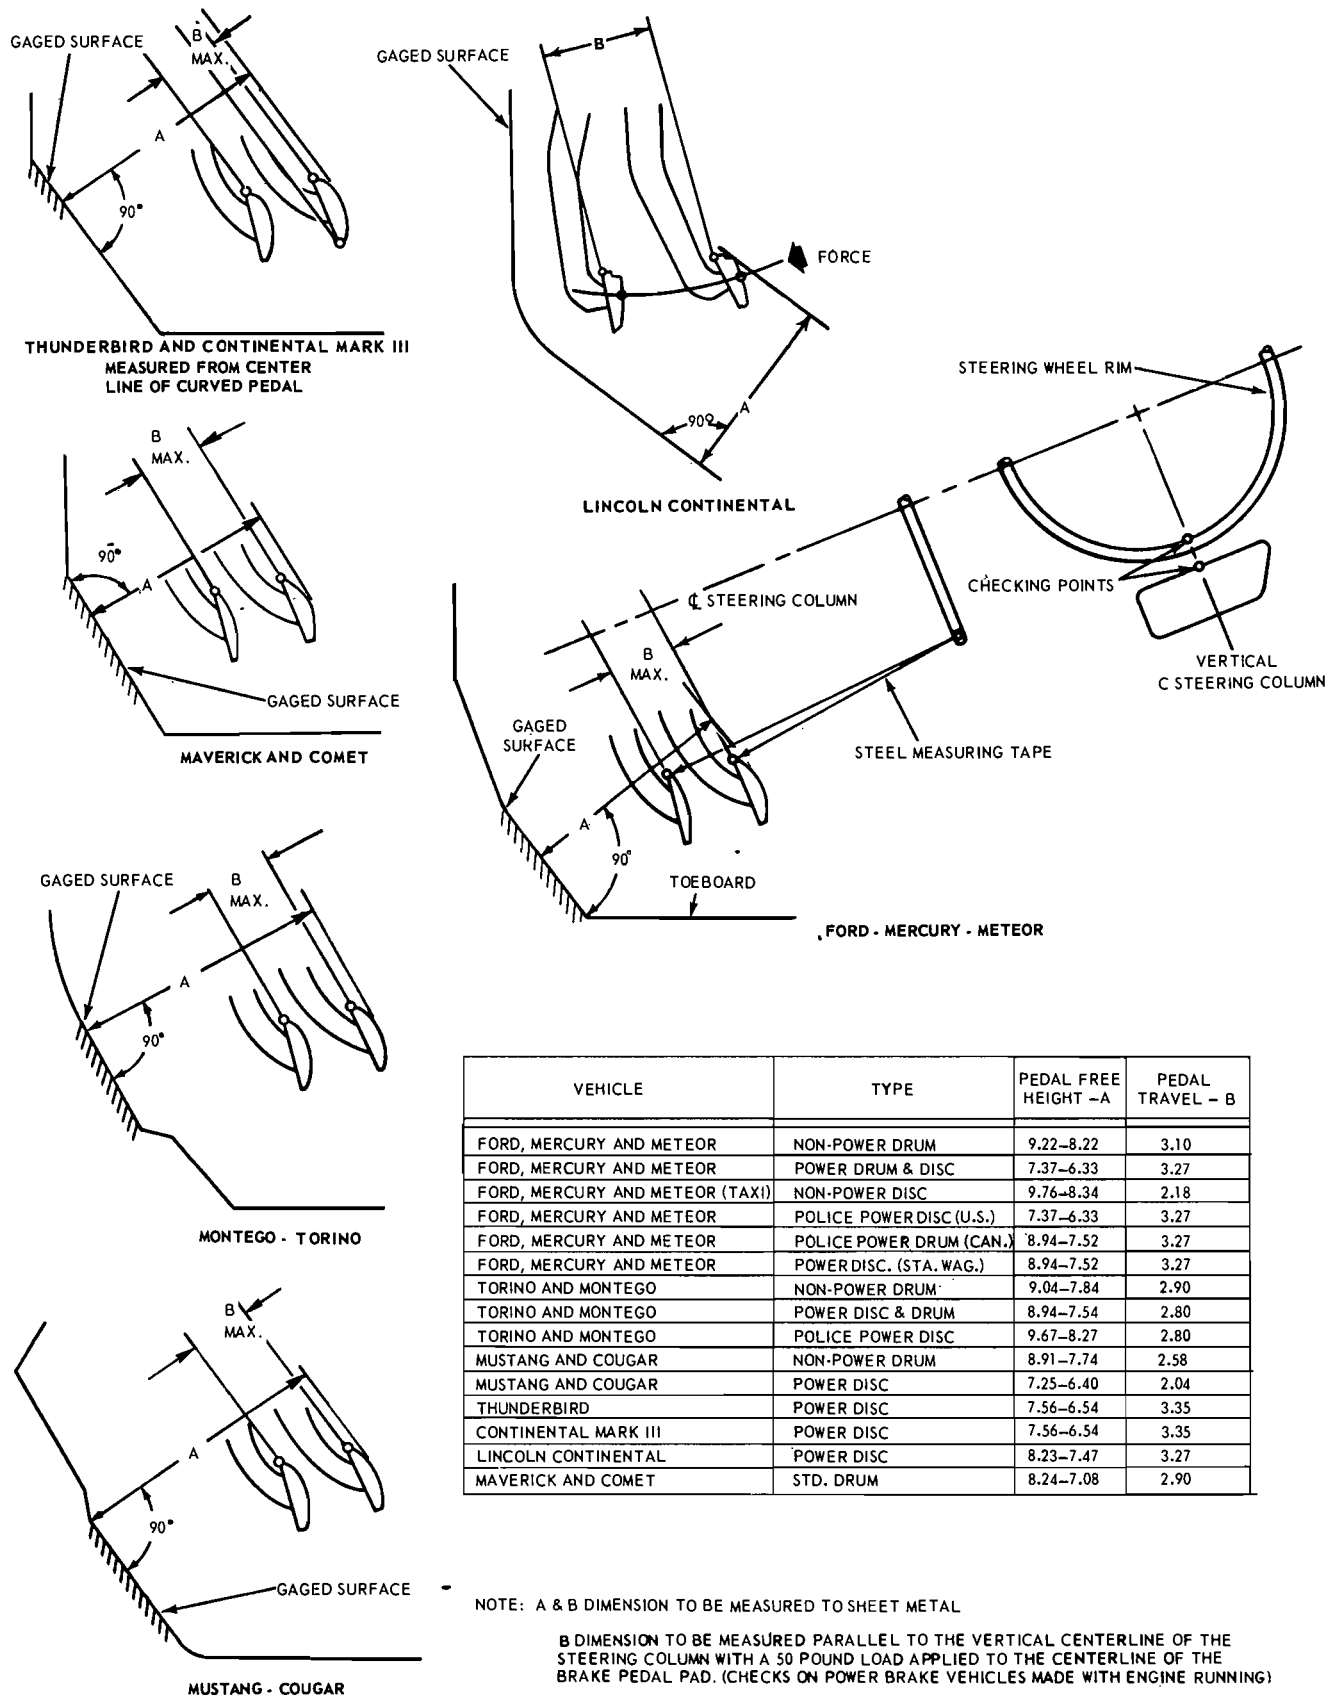

FIG. 1 Brake Pedal Height and Travel Measurements
1. Insert a slender, sharp pointed prod through the carpet and sound deadener to the dash panel metal and measure the distance to the brake pedal (Fig. 1).
2. Hook a steel measuring tape to the brake pedal as shown in Fig. 1. Measure and record the distance from the brake pedal free height position to the reference point, which is at the six
4. The difference between the brake pedal free height and the depressed pedal measurement under a 50 pound load should be within the specified maximum pedal travel service specification B in Fig. 1.
5. If the pedal travel is more than the specified maximum shown in Fig. 1, dimension B, make several sharp reverse stops (equivalent to 50 pounds pedal pressure) with a forward stop before each. Move the vehicle in reverse and forward for a distance of approximately ten feet; then, apply the brakes sharply and hold the brake pedal down until the vehicle is completely stopped. This will actuate the brake self-adjusters. If these stops do not bring the brake pedal travel within specification, make several additional forward and reverse stops as outlined above.